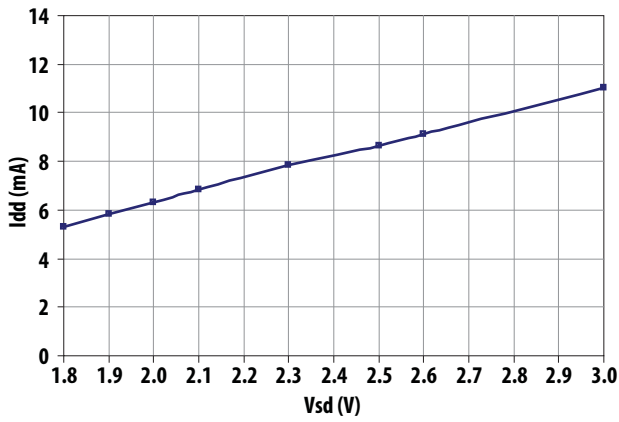

Figure 9. Idd Vs Vsd (Vdd=2.85V)
- The grounding regime for the ALM-2412 is critical to achieving the PCS- and Cell-Band Rejections shown in Figure 9. Please refer to the PCB Land Patterns section of this document for the exact locations of the grounding vias.